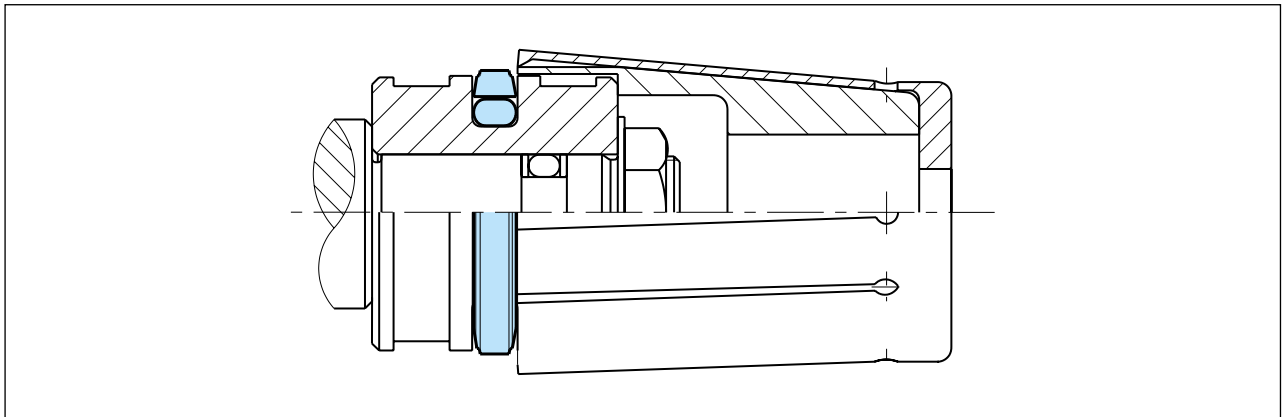

Figure 13 Sealing element after snapping into the groove
- Design splines or keyways to be of a smaller diameter than the sealing surface or use a protective sleeve to cover them during installation as illustrated in Figure 13.